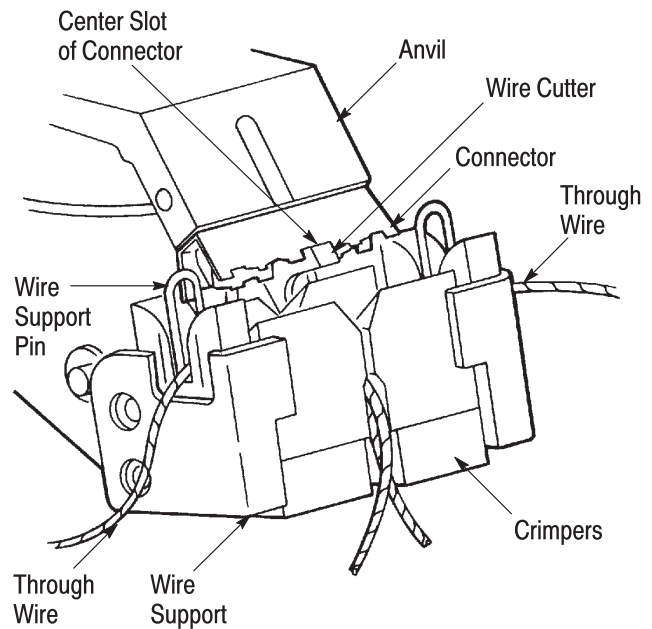

Figure 2
2. Holding the tool in one hand, lace the wire into the wire support and out between the crimpers. Make sure the wire has sufficient slack, then bottom it in the wire support. Refer to Figure 2.
4. Insert a connector into the tool making sure the wire cutter enters the slots in the middle of the connector. Refer to Figure 2. Make sure there is sufficient slack in the wires; otherwise, they could pull out of the connector during the crimp cycle.